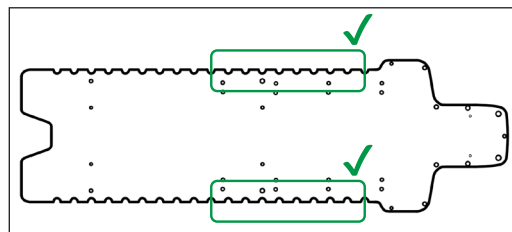

Fig. 10
5. For ease of transfer, follow the previous steps to attach two InfinityLock Transfer Handles to one side of the Alta AirShuttle in the recommended area (Fig. 10). The handles should be approximately shoulder-width apart from each other. Be sure to position the handles so as not to obstruct the AirShuttle Locating Bar positions or any other positioning devices.
6. Attach an additional pair of handles in the same locations on the other side of the AirShuttle (Fig. 10). Ensure that all four InfinityLock Transfer Handles are securely locked onto the InfinityEdge before transferring a patient.